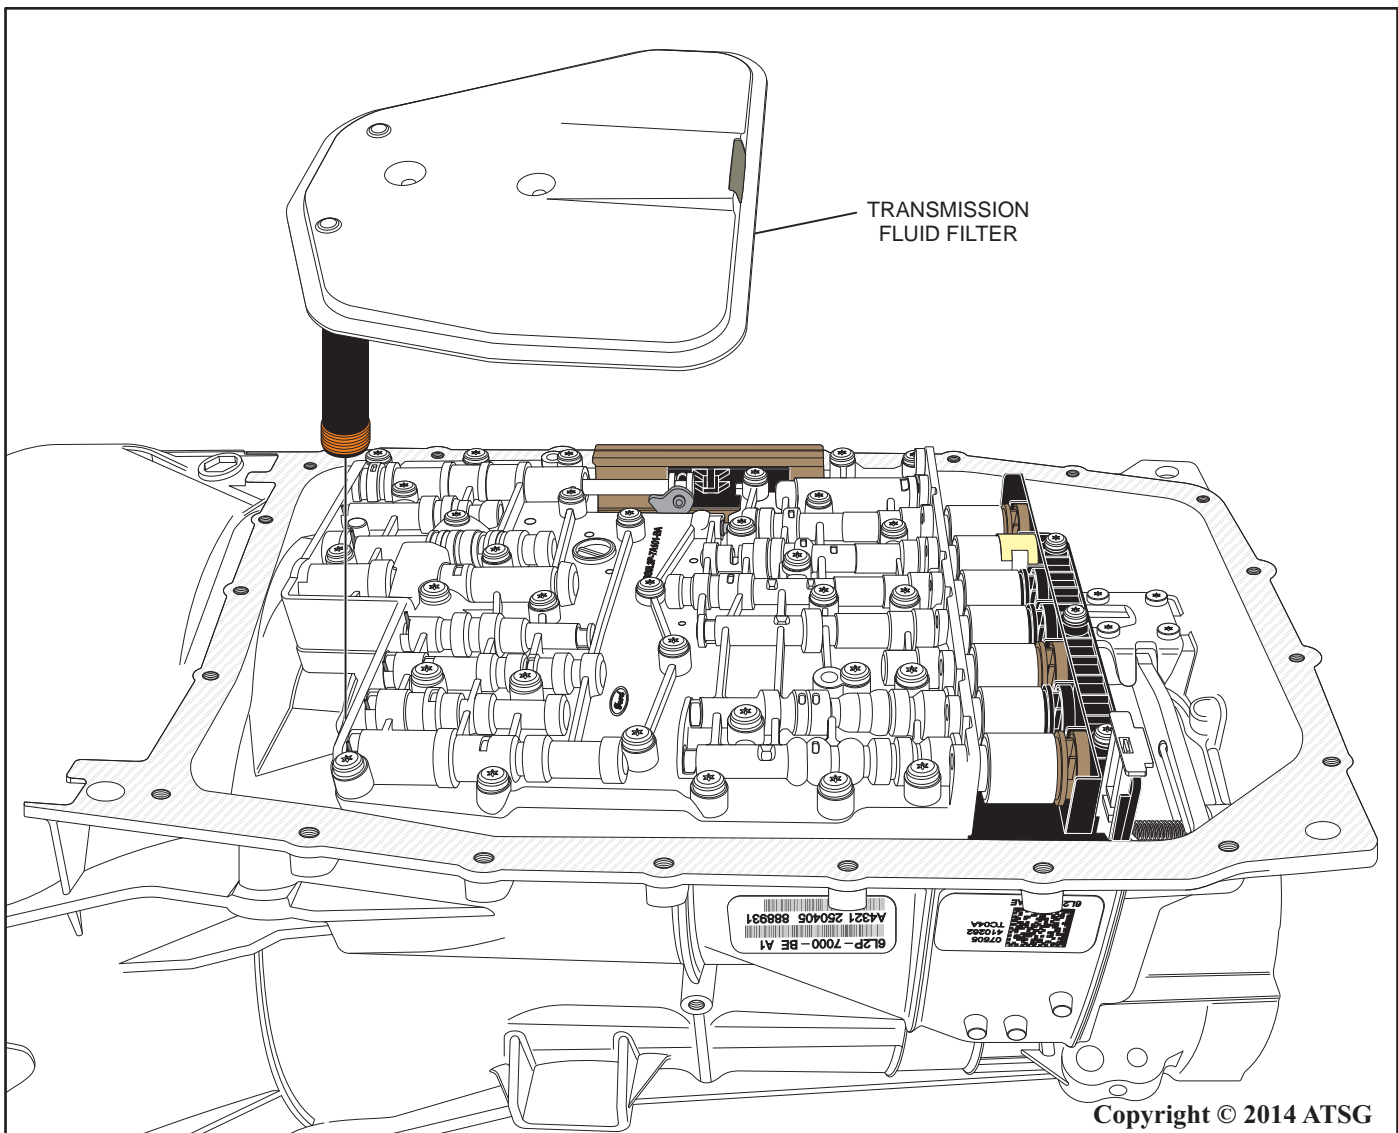

Figure 158
71. Install a new filter into the transmission as shown in Figure 158.